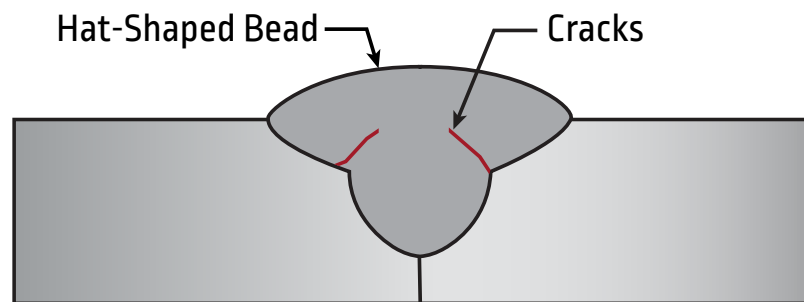

Figure 3-15: Hat Cracks
- Hat-shaped beads that can increase or cause cracking (see Figure 3-15). For other types of cracks and discontinuities, see Section 9.